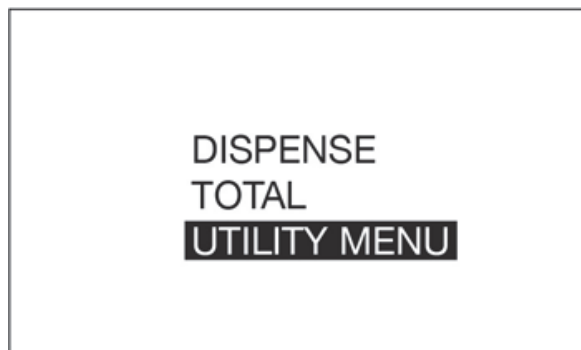

FIG. 23
3. Use the UP or DOWN ARROW button on the keypad to highlight UTILITY MENU (FIG. 23) and then press the center ENTER button on the keypad to select the UTILITY MENU option.